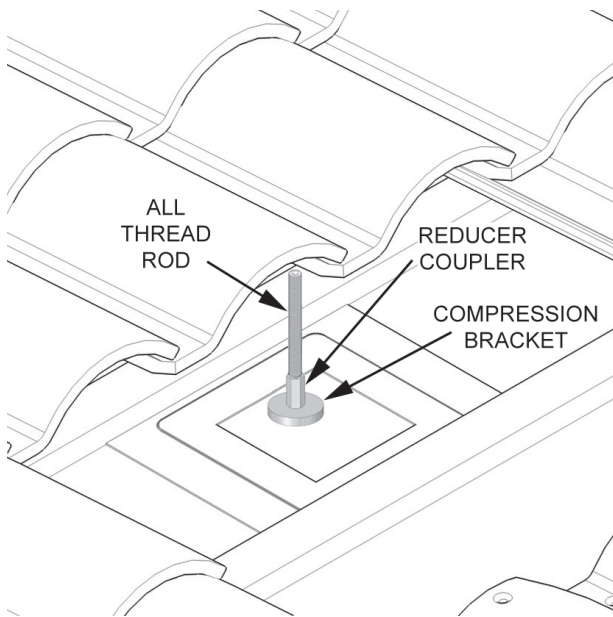

Figure 7.
7. A piece of 12" length of stainless steel 5/16" all-thread is then inserted through the hole in the roof and the flashing bushing. Attach the compression bracket washer and 5/16" x 3/8" SS reducer coupler to the 5/16" SS –all thread as shown. The all-thread should extend about 4" below the roof rafters. See Figures 7 & 16.